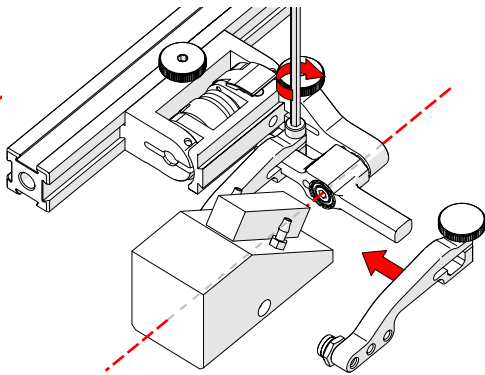

Fig. 70 - Place wedge
7. Position the wedge on the inner probe holder arm (Fig. 70).
8. Tighten the arm clamp screw (Fig. 70).